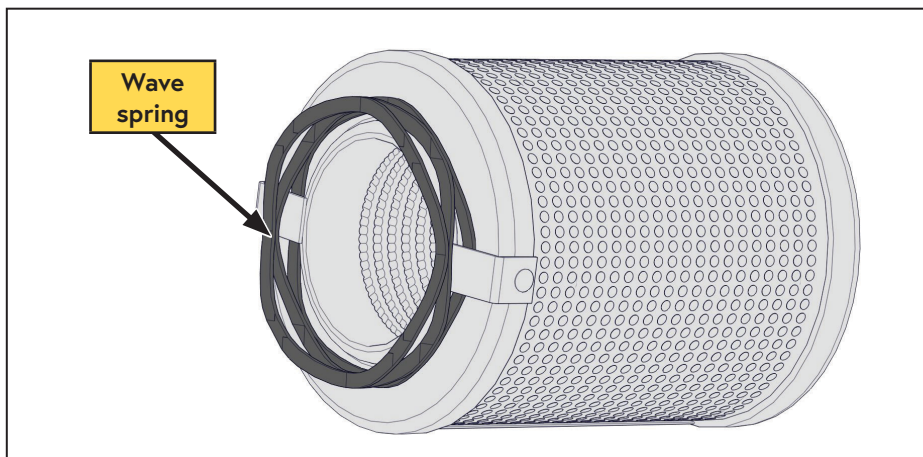

Figure 28 — Install wave spring
- ☐ Verify the wave spring is installed on the coalescing element (Figure 28).